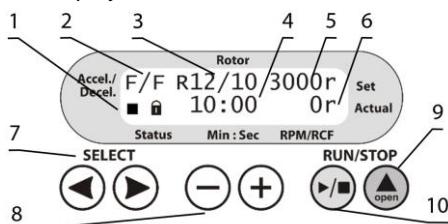

Figure 4. LMC-3000 control panel
- Check the power cable for any signs of damage. Connect the power cable to a properly grounded mains socket. Set the power switch on the unit to position **I** (on). Press the **▲ Open** key (fig. 4/9 or 5/11) and lift the lid by hand.
- Acceleration and deceleration modes (fig. 4/2 or 5/2);
- Rotor selection (fig. 4/1 or 5/1);
- Set rotor speed in RPM or RCF¹ (fig. 4/6 or 5/6);
- Status icons of rotor, ■ stopped or ► running (fig. 4/1 or 5/1, first symbol);
- Status icons of lid, ■ closed or ► open (fig. 4/1 or 5/1, second symbol);
- Set time of centrifugation, in minutes and seconds (fig. 4/4 or 5/4);
- Actual rotor speed, in RPM or RCF (fig. 4/6 or 5/6);
- 5.3. Press the **▲ Open** key (fig. 4/9 or 5/11) and lift the lid by hand. Check the rotor and buckets for any signs of wear or corrosion and replace if necessary. Insert **EVEN** number of tubes/microtest plates in rotor one opposite another. The loading in the opposite tubes must be equal.
- 5.4. **Setting parameters.** Use the **SELECT** ◀ and ▶ keys (fig. 4/7 or 5/10) to choose a parameter and the – and + keys (fig. 4/8 or 5/9) to modify it. Selected parameter will be blinking. Program automatically saves any changes made after no keys are pressed for 2 seconds.
- 5.4.1. Acceleration modes (fig. 4/2 or 5/2, first letter). Three modes of acceleration are available, slow (shortened to **S**), normal (**N**) and fast (**F**).
- 5.4.2. Deceleration modes (fig. 4/2 or 5/2, second letter). Four modes of deceleration are available, free brake (**0**), slow (**S**), normal (**N**) and fast (**F**).
- 5.4.3. Installed rotor (fig. 4/3 or 5/3). Select the rotor that is currently installed in the centrifuge. Combinations of rotors, adapters and their maximum allowed speed is listed below in the Table 1.
- 5.4.4. Rotation parameters (fig. 4/5 or 5/5). Rotor speed can be set in RPM and in RCF, denoted after numeric value by **r** and **g**, accordingly. Values convert after changing units. RCF depends on selected rotor or adapters, as shown in Table 1.
- 5.4.6. Time setting (fig. 4/4 or 5/4). Select duration of centrifugation in minutes, step 1 minute.
- 5.5. Close the lid carefully and smoothly until a clicking sound is heard. Icon  appears on the display (fig. 4/1 or 5/1).
- 5.6. Press the **RUN/STOP** / key (fig. 4/10 or 5/12) to start centrifugation. Icon  (fig. 4/1 or 5/1) and actual speed (fig. 4/6 or 5/6) are shown in the lower line of the display. The timer (fig. 4/4 or 5/4) starts the countdown after set speed is achieved.